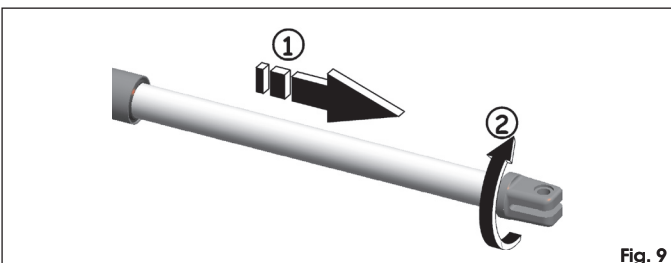

Fig. 9
4. Completely extend the rod till it reaches the limit stop, fig. 9 ref. ①.
6. Turn the rod clockwise half a revolution / a revolution, Fig. 9 ref. ②.